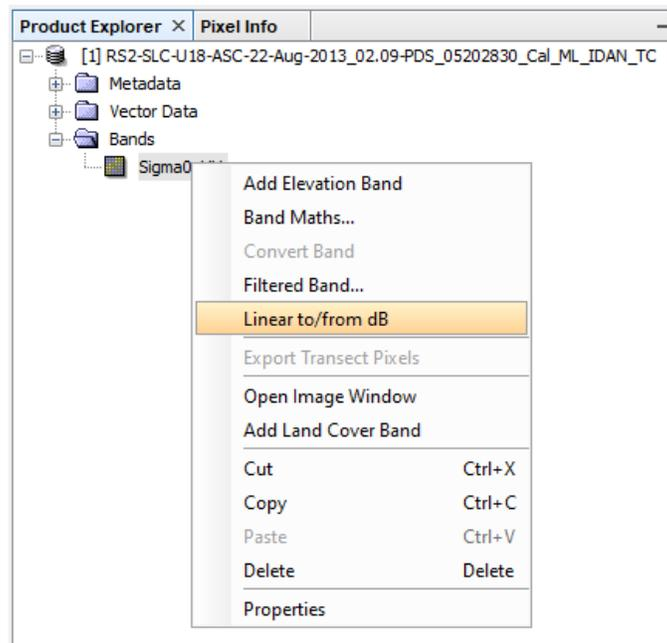
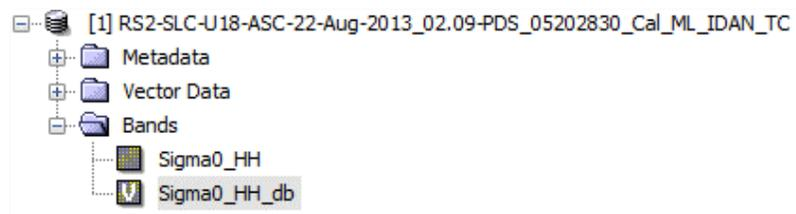

Figure 13: Conversion to dB scale
Figure 14: Log-scaled backscatter intensity
Step 5 – Conversion to dB scale: To view the image in decibel scaling, right-click on the terrain corrected **Sigma_HH** band and select **Linear to/from dB** to convert the data using a virtual band (Figure 13 and Figure 14).